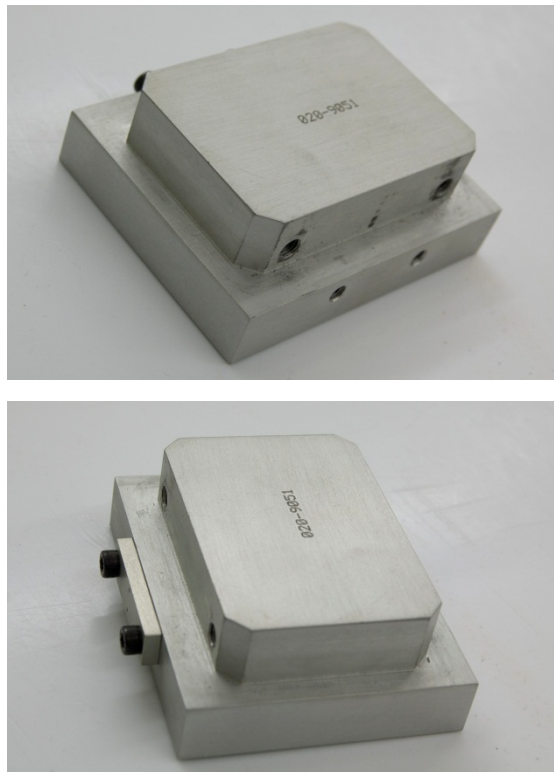

Figure 149. Interface plate for test pendulum
- Install the Angular Rate Sensor (ARS)⁴⁵ to the pendulum interface plate using two M1.4 x 8 SHCS so that it measures rotational velocity about the Y' axis (Figure 149).